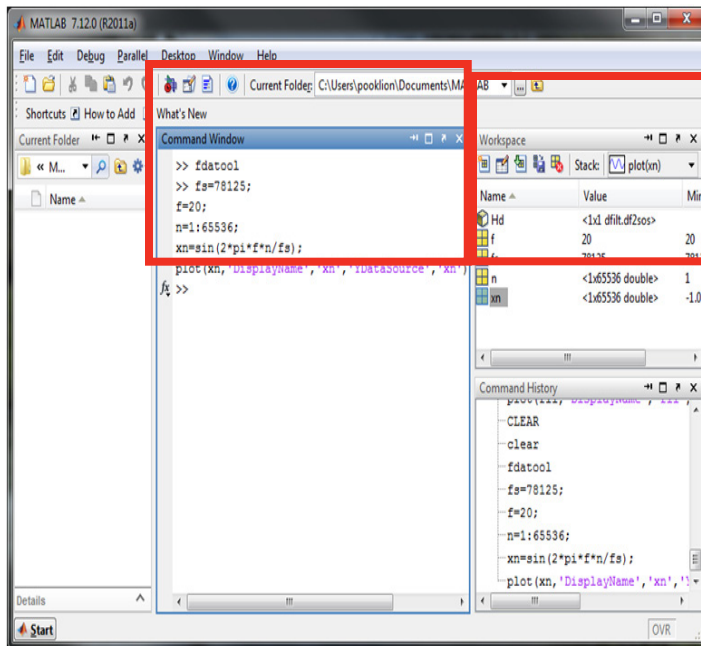

Figure 11. MATLAB command window and objects
1. Type in the code below to apply filter to 20 Hz sine wave (Figure 11) :